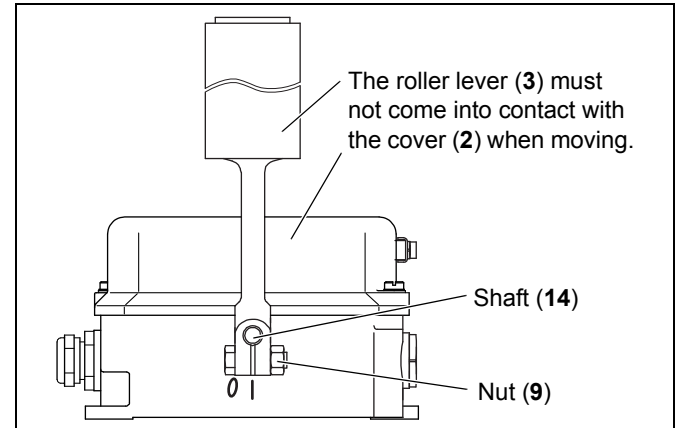

Fig. 5-4: Mounting the roller lever on the belt misalignment switch
- Secure the belt misalignment switches on the conveyor structure (see section 4.4: "Dimensions", page 15). Secure the belt misalignment switches by screwing two screws through the slotted holes (10) (see fig. 5-4).